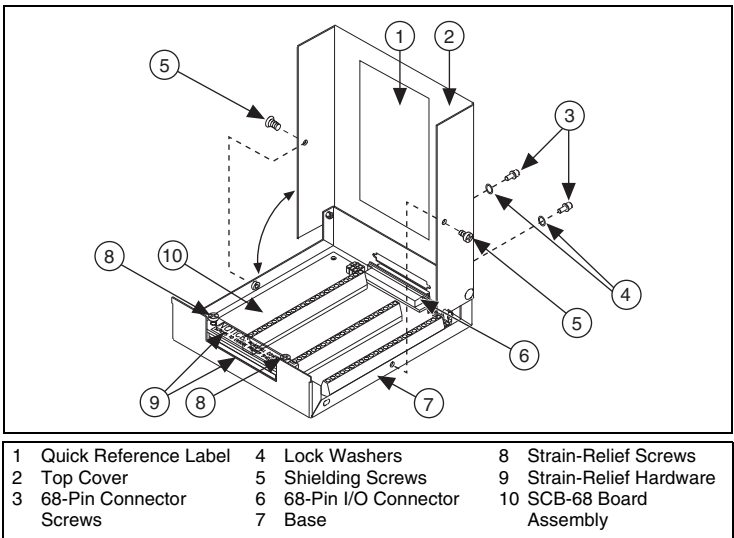

Figure 1. SCB-68 Parts Locator Diagram
Figure 1 shows the SCB-68 connector block.
To get started with the SCB-68, complete the following steps while referring to Figures 1 and 2. If you have not already installed your DAQ device, refer to the *DAQ Getting Started Guide* for instructions.
2. Attach the quick reference label to the inside of the top cover as shown in Figure 1. For quick reference label PDFs for most compatible devices, refer to the KnowledgeBase document, *Where Can I Find*